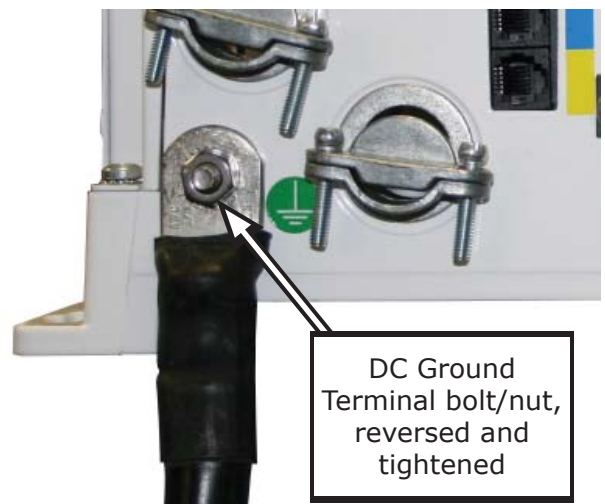

Figure 2-17, Large Ground Wire Connected to MS-PE Series
4. Reverse the removed bolt, and place it back in the chassis hole to attach a correctly sized ground cable to the MS-PE Series chassis, as shown in Figure 2-17.